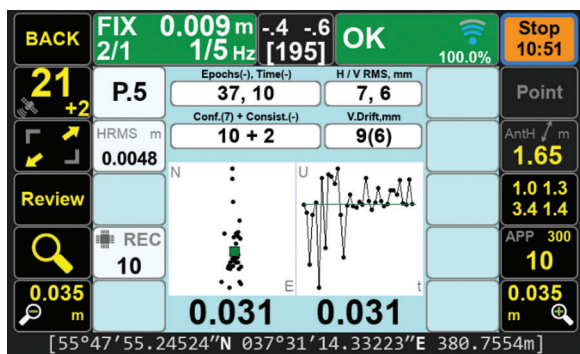
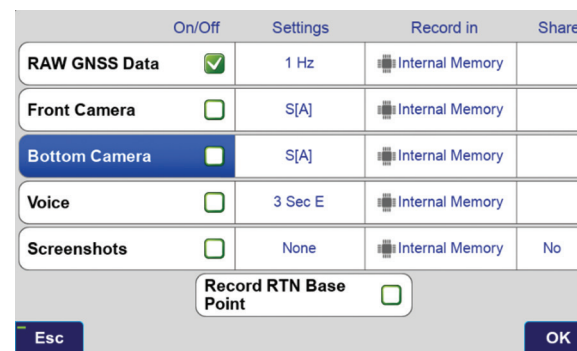

Figure 3 End of Step one
Figure 7 What to record screen
• **Step One.** In Step One, fixed engines are reset and solutions are collected into groups. Each group contains all the epochs located within a specified radius (the CG value) from its center and new groups are created as necessary so that all epochs fall into at least one group. Each group has its own Epoch Counter, Confidence Level and Elapsed Time. A point may fall into more than one group. The groups are sorted from best to last by the sum of their Time and Confidence with the current best group being shown within [ ] and others within ( ). Step One continues until a group reaches the Confidence Level. (Figure 3)
Action Screen shows detailed information about each point collected. Screen shots can automatically be attached to each point and saved at the end of each collection (Figure 7). In **Verify with Automatic RTK Engines Resets** screen shots at the end of both Step One and Step Two are saved (Figures 3